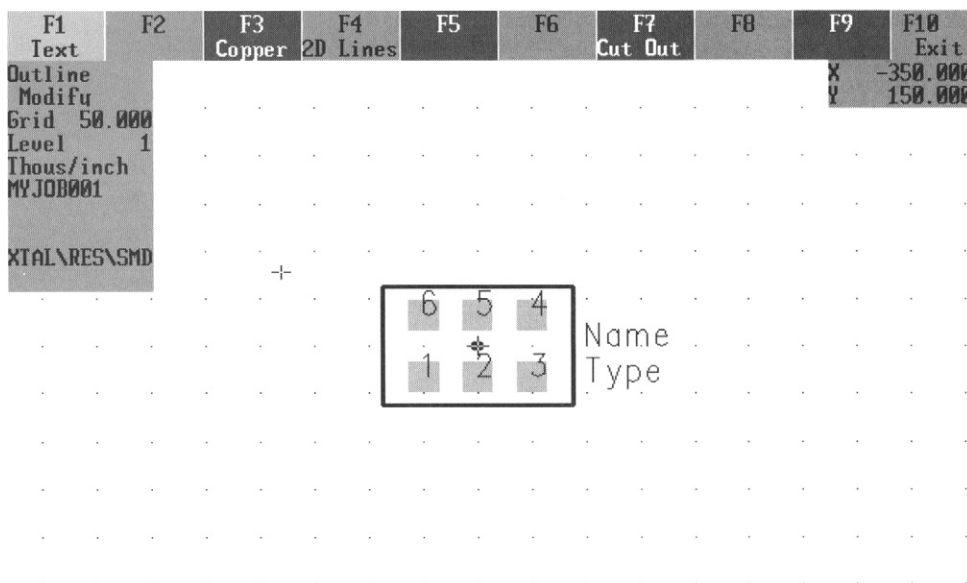

Figure 10-11 XTAL\RES\SMD Part Layout
- **Y1** (8.00 MHZ ceramic resonator with built-in capacitors): Refer to Figure 10-11 for the XTAL\RES\SMD pin arrangement. OrCAD uses pin numbers 1, 2, and GND. The PCB layout part uses pin numbers 1 to 6. The part data sheet shows that pins are connected in parallel across the two rows and that pins 2 and 5 are ground.